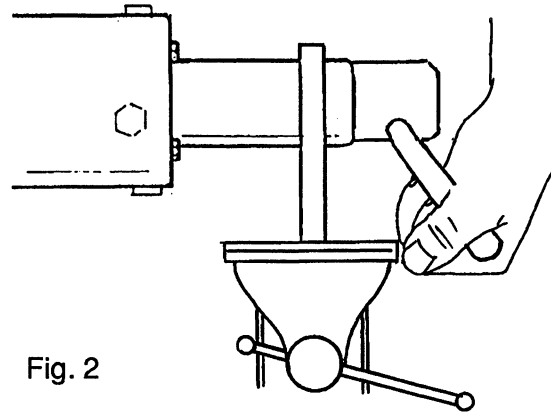
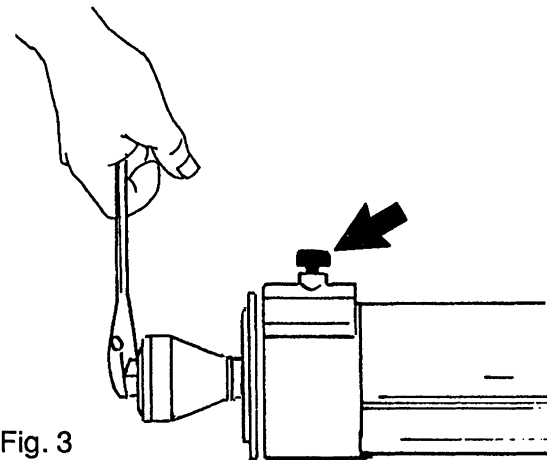

Fig. 2
Fig. 3
Get a hold with the tool (fig. 2) and unscrew the valve cone (fig. 3). Replace the teflon seal and the membrane.
In case work is done to the A, B, or C valve pneumatic cylinders, replace the O-rings (9) and seal rings (10). Use tool TP No. 449969–101 (fig. 2) to unload the spring.